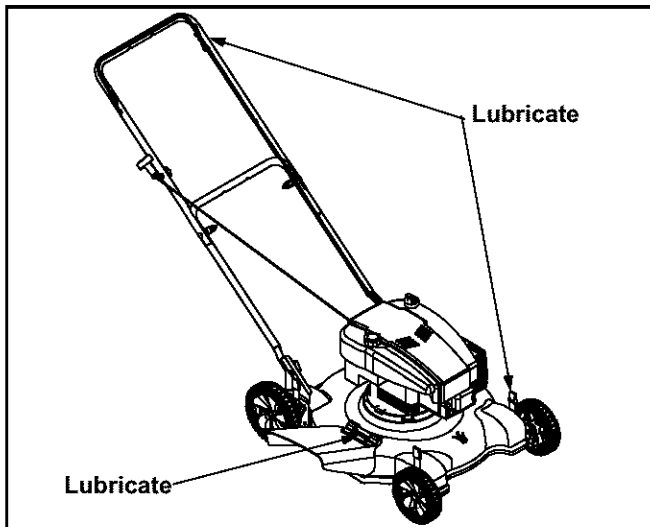

Figure 11
**Blade Control Handle:** Lubricate the pivot points on the blade control handle at least once a season with light oil. The blade control must operate freely in both directions. See Figure 11.